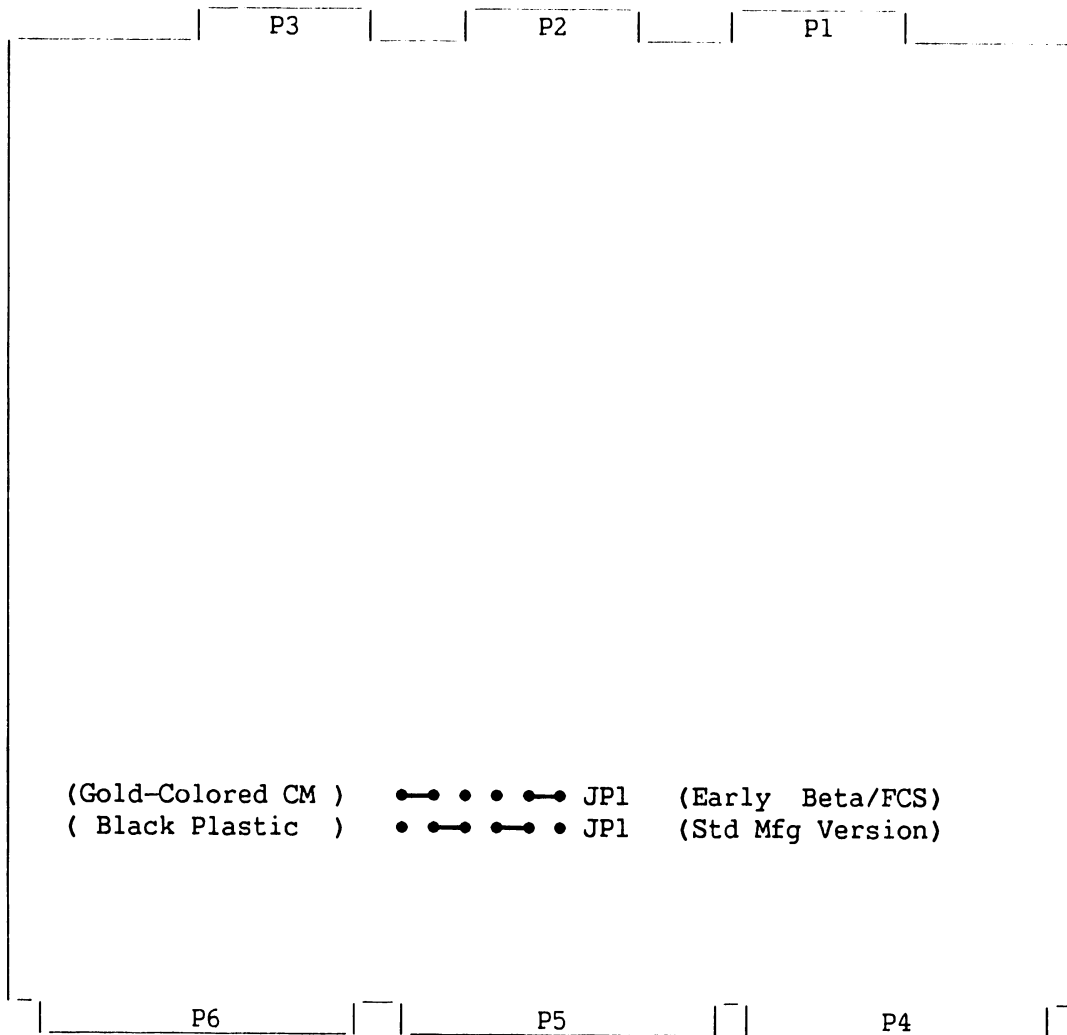

Figure 5-10. Central Processor (CP7) Jumper Locations
2. There are no switches on the CP7 board, only jumpers. Refer to figure 5-10 for the jumper locations.